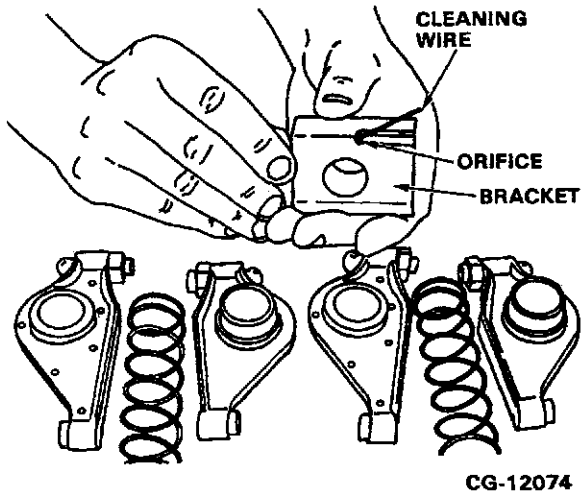

Figure 5.8. Inspect Bracket Orifices for Blockage
- Inspect all rocker arm shaft bracket orifices for blockage. Run a wire through each orifice to assure they are open. Refer to Figure 5.8.